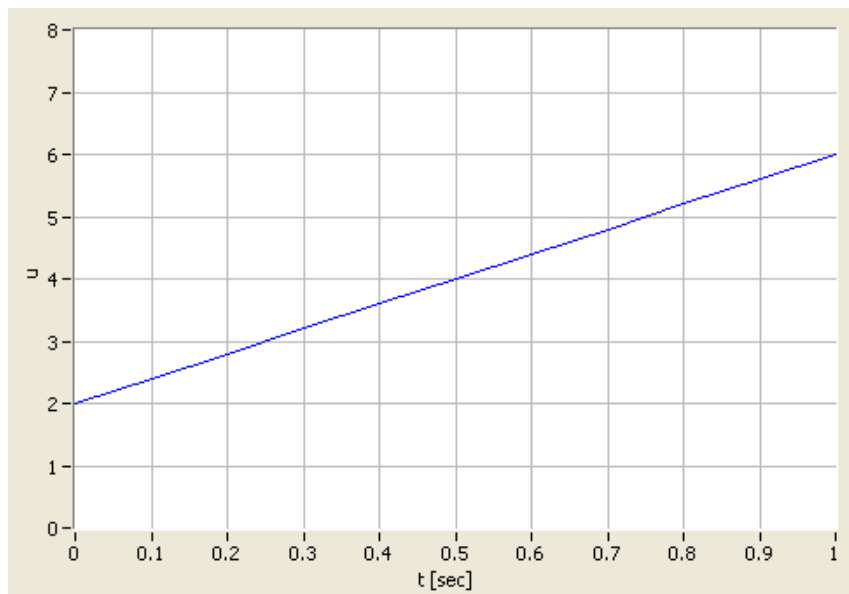

Figure 7.1:
2. Figure 7.1 shows the step response in u for a given PI controller. The step amplitude of the control error was